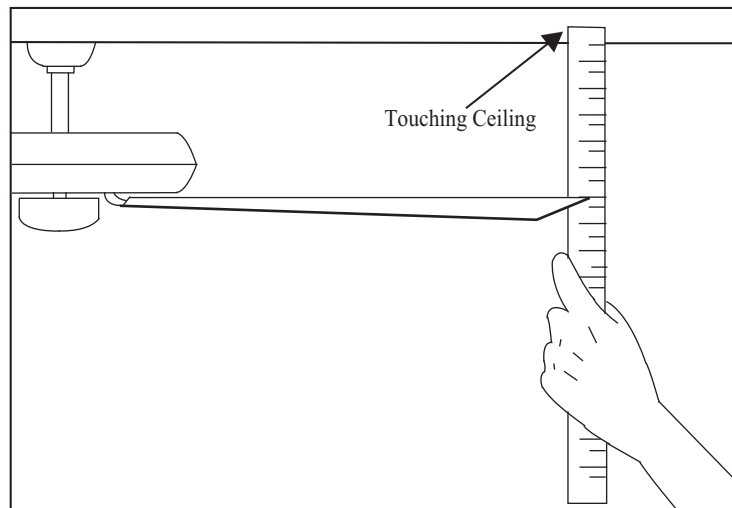

Figure 19
- Select a point on the ceiling above the tip of one of the blades, then select any fan blade and measure from the center of the selected blade to the point on the ceiling (as shown in Figure 19). Rotate the fan until the next blade is positioned and repeat the measurement using the same point from the ceiling for every blade. Measurement deviations should be within 1/8".